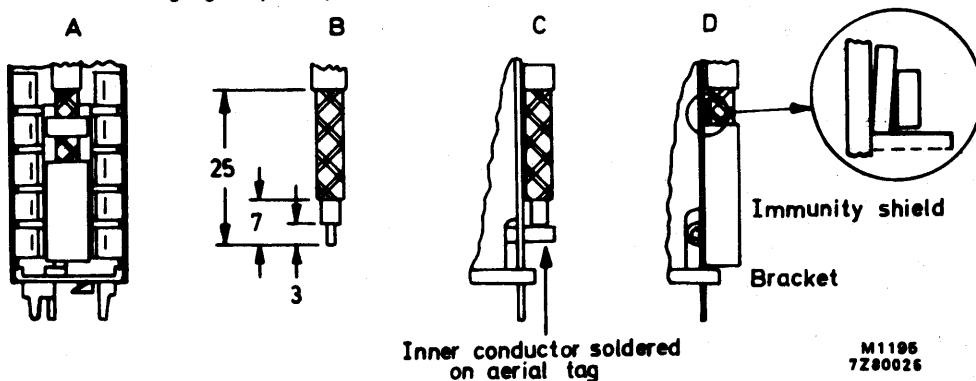

Fig.4 Fixing of the aerial cable.
- fix the cable as indicated in Fig.4 C and solder the inner conductor on the aerial tag;